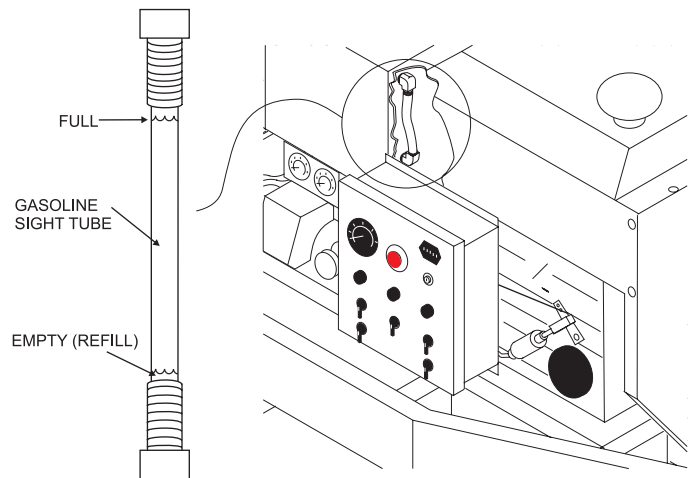

Figure 10. Fuel Sight Tube
5. Read the fuel sight tube (Figure 10) on top of the fuel tank to determine if the pump's engine fuel is low.
- Turn the Control Off switch (Figure 10) to the "OFF" position.